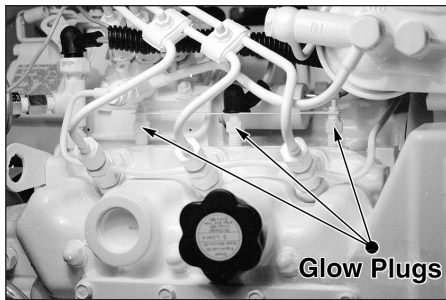

Figure 14: Glow plugs.
- b. Screw in injector and tighten to 43 or 50 ft/lbs (6 to 7 kgm) (Figure 14).
2. To check the glow plugs, loosen the current carrying flat wire between the plus-poles of the glow plugs (Figure 14). Connect a D.C. test bulb between the plus-pole of the battery and the plus-pole of the glow plug. If the bulb lights up, the glow plug is functioning properly.